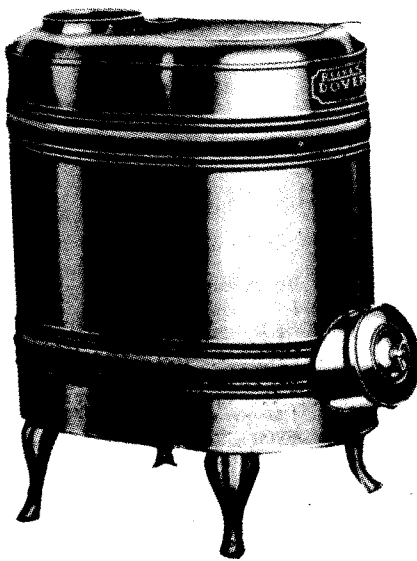

Fig. 70. Reeves Dover Series 25.
4. **Cyclops Corp.** (manufacturer), Empire-Detroit Steel Division, Dover, OH 44622. The Reeves Dover Series 25 (Fig. 70) measures 30-3/8 inches high, 17 inches wide, and 25 inches long assembled, and has a shipping weight of 20 pounds. It has a sloping ash pouch with 6-inch, pressed-steel, hinged ash door with register-screw draft and spark arrester, and a heavy-gauge steel lining. The price is \$37.95.